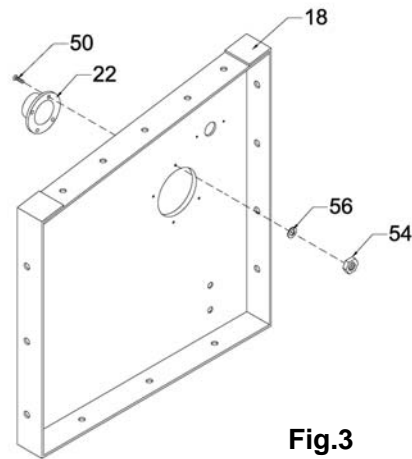

Fig.3
Step 3 -- Cabinet Left Plate Assembly see Figure 3